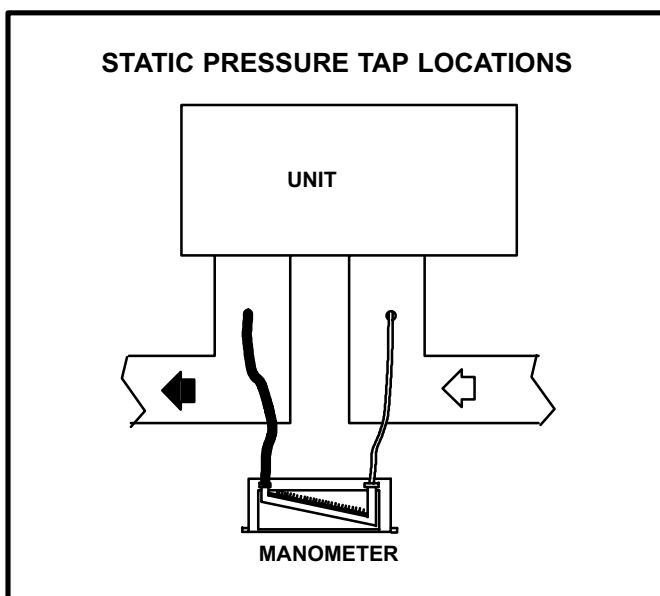

FIGURE 36
- a- Measure tap locations as shown in figure 36.